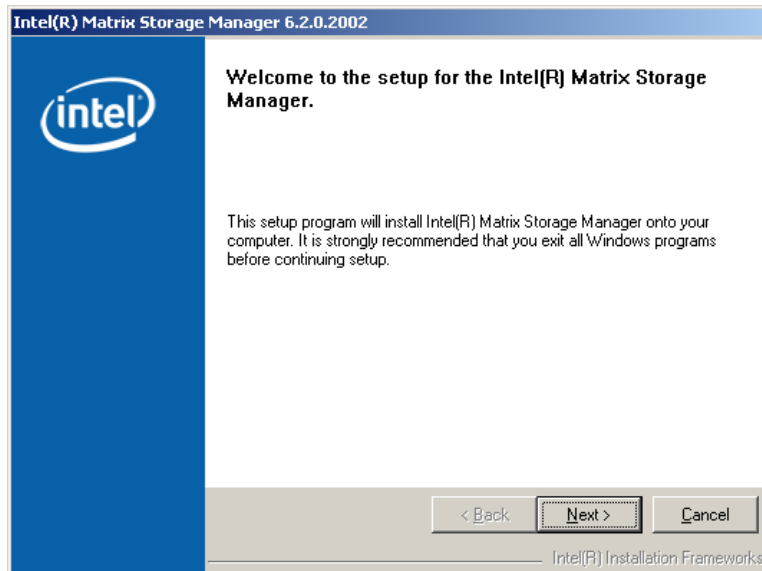

Figure 7-56: Matrix Storage Manager Welcome Screen
Step 7: Figure 7-56 shows the **Matrix Storage Manager** welcome screen.